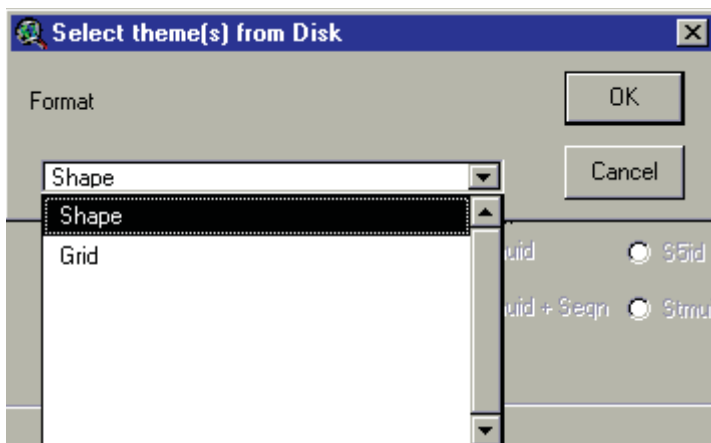

Figure 6.27
3. A new dialog is displayed for the user to define the type of theme being used (Figure 6.27). Select either **Shape** or **Grid** from the drop-down menu and click **OK**.